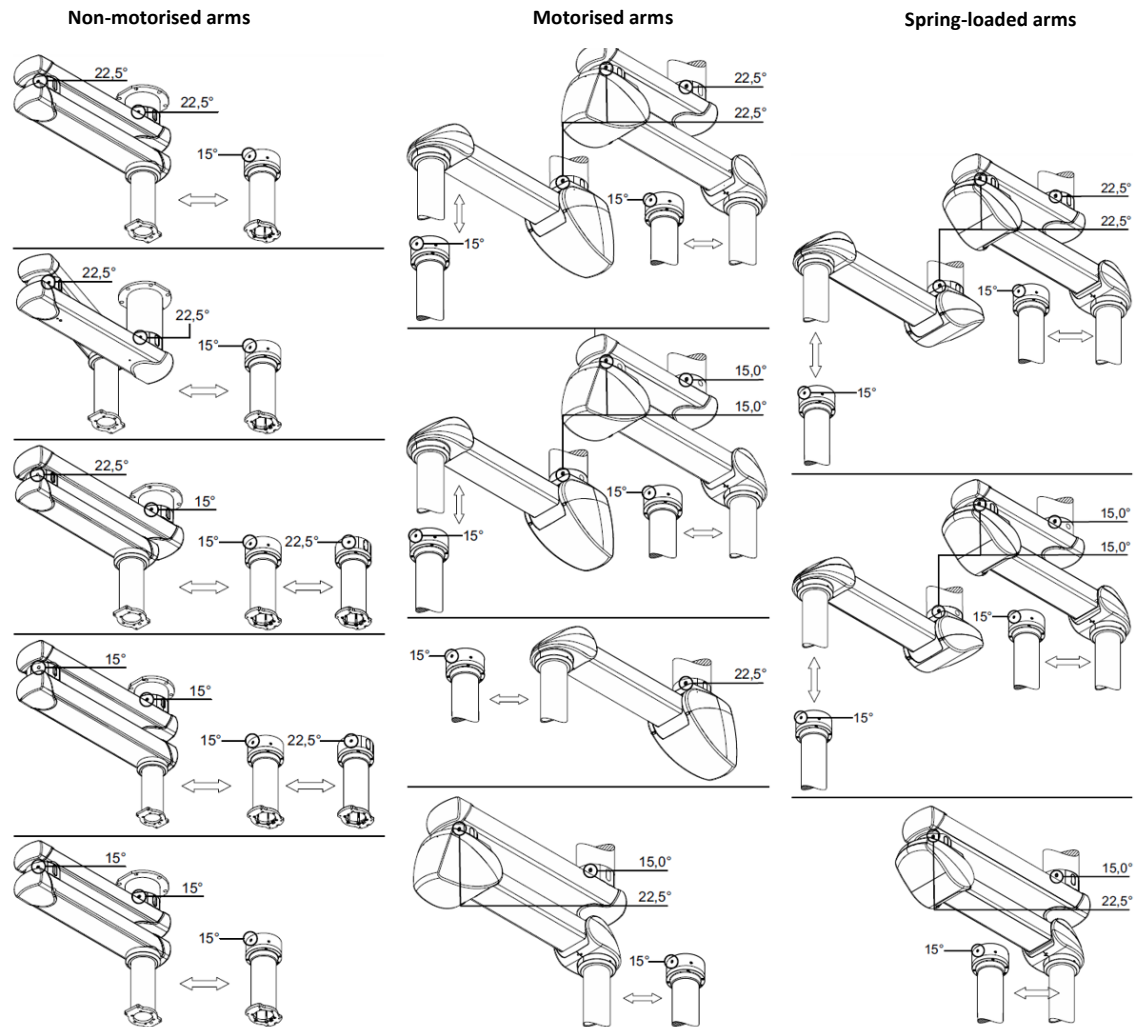

Fig.8 Adjustment of the rotary stops
- For double arm versions with friction bearing in between, it is recommended to fit 2 ball stops (3) (see Fig. 8). The detailed illustration shows the intermediate bearing (11) (without outer ring) and the position of the stop screw (1) in the ball stops (3).
When adjusting the end stop as illustrated in Figure 8, the dead centre area is  $45^\circ$ . This means that the spring arm (3) has a maximum range of movement of approx.  $315^\circ$ . If the minimum setting on the end stop is not defined while adjusting the brakes on the intermediate bearing (11) and the ceiling bearing (10), it is quite difficult to bend the suspension system from the stretched position (12) and turn it on the intermediate bearing (11) of the spring arm (3).